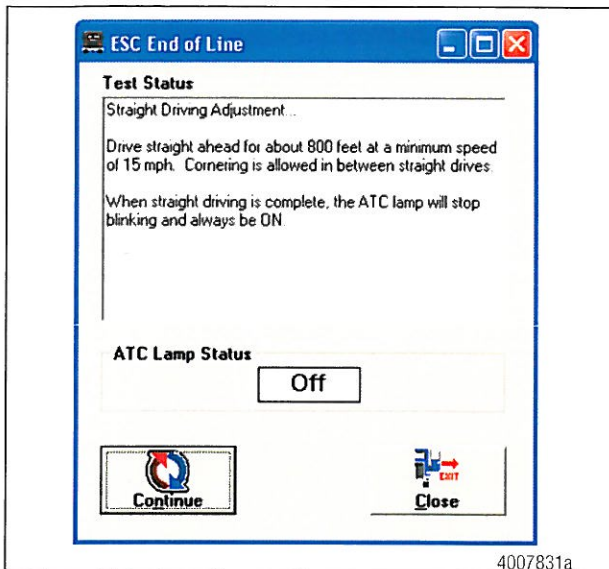

Figure 21
6. Carefully read and follow the instruction in the message box. The ATC/RSC/ESC lamp will start blinking when the 15 mph speed has been reached. When "straight driving" is completed after about 800 feet, the ATC/RSC/ESC lamp will stop blinking and will be on solid. Figure 21.